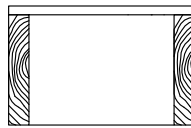

Figure 24E
5. Use (2) 14-1/2" [368 mm] and (2) 17" [432 mm] 2" [51 mm] x 12"s [305 mm] to construct the box sides. Nail the 3/4" [19 mm] plywood fixture to the box. See **Figure 24E**.